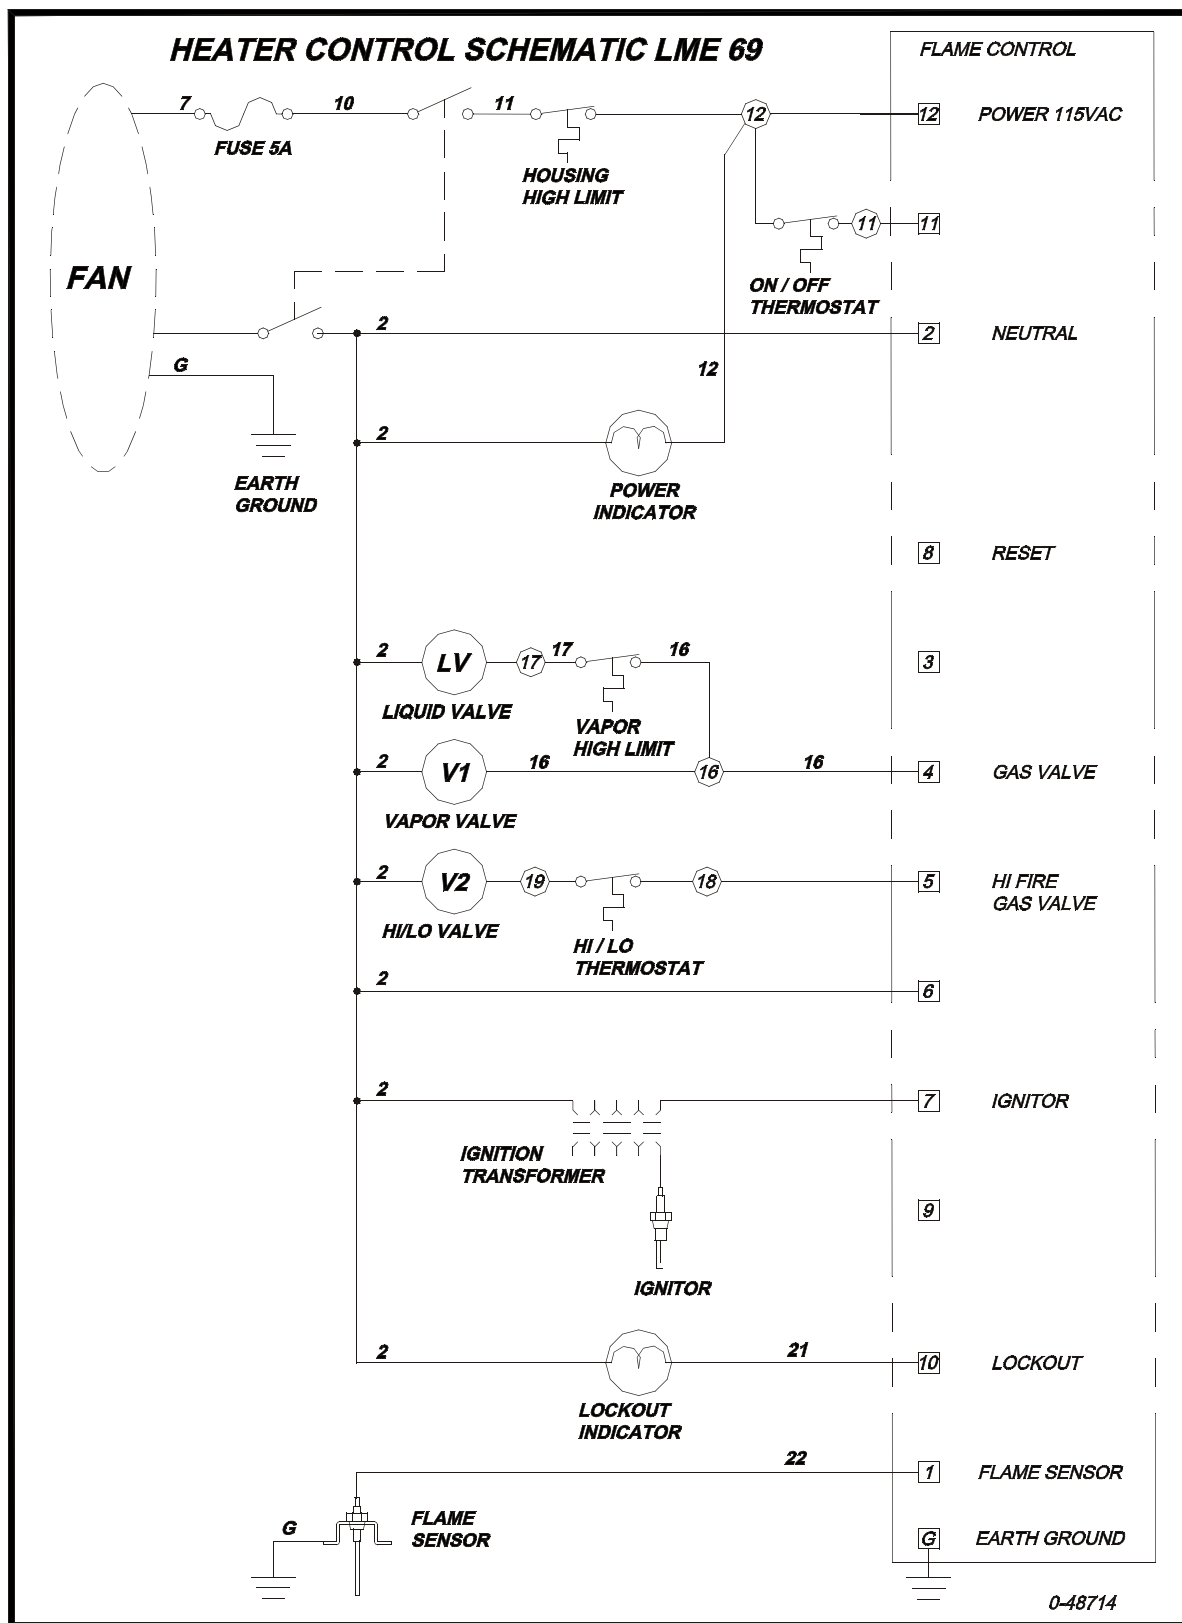

Figure 18. 0-48714 Wiring
- 1. A plenum Theromostat device is required to control temperature and operate the Heater safely. Use the recommended BROCK® thermostats and connect them to the terminals as shown in the **Thermostat Chart** below and the Wiring Diagram, **Figure 18**.
- 3. Route the power cord from the Thermostat back to the Heater Control and connect to the Heater terminal strip. See the Thermostat Chart below and Wiring Diagrams (**Figure 18**) for connections.